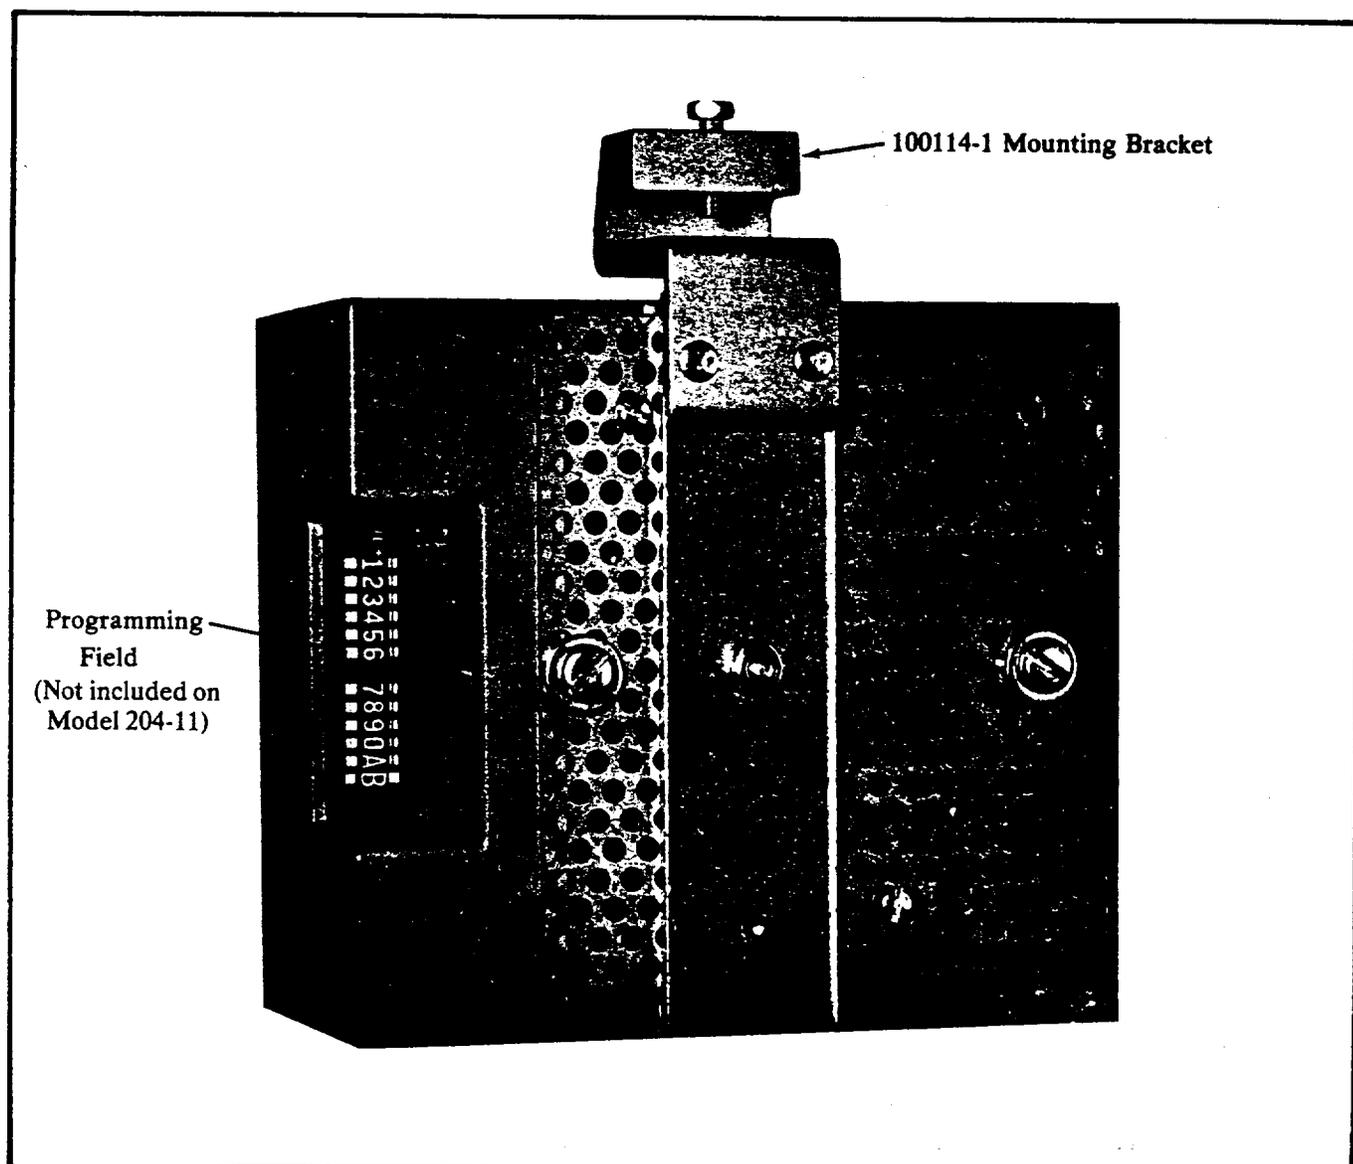

Figure 6. TonePulse Converter (Rear view)
- 16.01** When used in a dial PBX, programming is required when the dial PBX is trunked to a central office which is equipped for Touch-Tone®. A programming field to accommodate this requirement is located on the back of the Converter. (See Figure 6)
- (b) In most Strowger installations, the shelf angle iron on which the Converter is to be located is positioned such that the Converter can be mounted directly in the configuration as illustrated in Fig. 6. However, in some vintages of equipment the angle iron is located toward the lower portion of